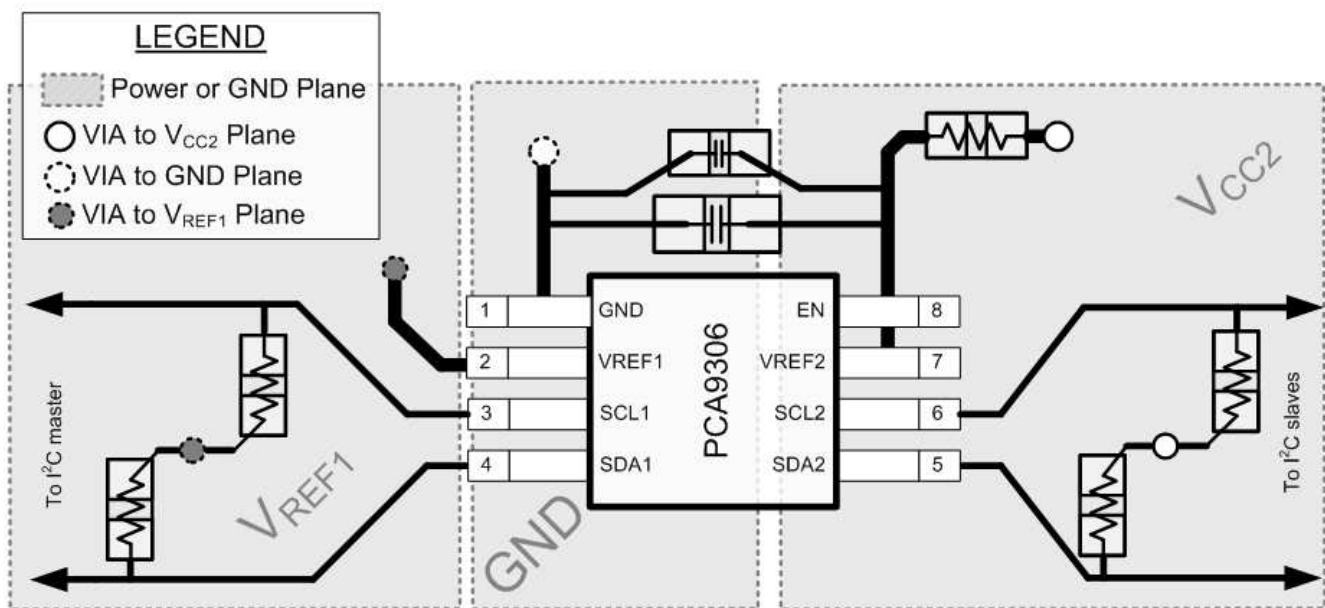

Figure 11. PCA9306 Layout Example
In all PCB layouts, it is a best practice to avoid right angles in signal traces, to fan out signal traces away from each other on leaving the vicinity of an integrated circuit (IC), and to use thicker trace widths to carry higher amounts of current that commonly pass through power and ground traces. The 100-pF filter capacitor should be placed as close to  $V_{REF2}$  as possible. A larger decoupling capacitor can also be used, but a longer time constant of two capacitors and the 200-k $\Omega$  resistor results in longer turnon and turnoff times for the PCA9306 device. These best practices are shown in Figure 11.
For the layout example provided in Figure 11, it would be possible to fabricate a PCB with only two layers by using the top layer for signal routing and the bottom layer as a split plane for power ( $V_{CC}$ ) and ground (GND). However, a four-layer board is preferable for boards with higher-density signal routing. On a four-layer PCB, it is common to route signals on the top and bottom layer, dedicate one internal layer to a ground plane, and dedicate the other internal layer to a power plane. In a board layout using planes or split planes for power and ground, vias are placed directly next to the surface-mount component pad, which must attach to  $V_{CC}$  or GND, and the via is connected electrically to the internal layer or the other side of the board. Vias are also used when a signal trace must be routed to the opposite side of the board, but this technique is not demonstrated in Figure 11.